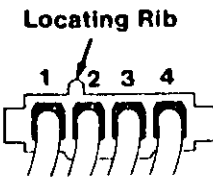

Figure 3. Diskette and Fixed Disk Drive Power Connectors
- Check the diskette drive and fixed disk drive power connectors for the correct voltages (Figure 3).